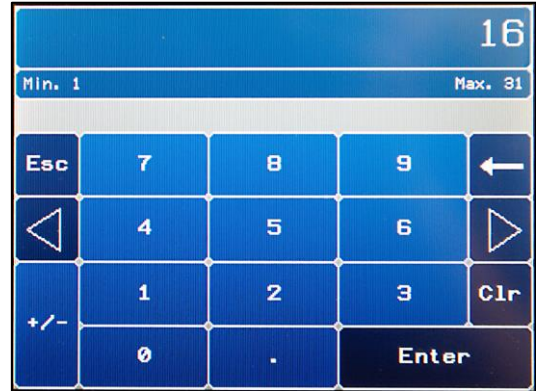

Figure 69
2. A numeric keypad screen now opens, Fig. 69. Type in the day and then press the **Enter** button